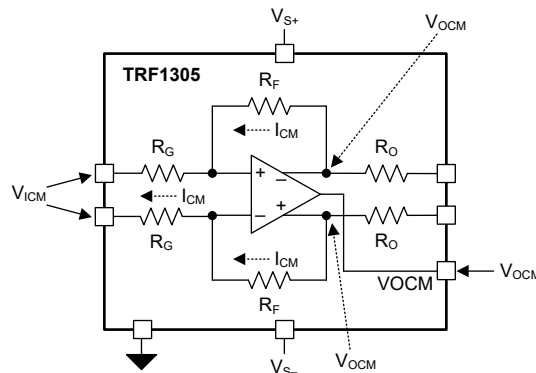

Figure 8-4. Net DC Current Flow When Input and Output Common-Mode Voltages are not Equal
The TRF1305x1 accept a wide range of input dc common-mode (CM) voltages. Take into consideration the dc current loading of the source when the TRF1305x1 is dc coupled at the input. Figure 8-4 shows that when the input CM voltage, V_{ICM} , is different than the output CM voltage, V_{OCM} , a net dc current flow from or to the source occurs. Equation 1 shows the relationship that the source or sink current, I_{CM} , has with the input and output CM voltages: